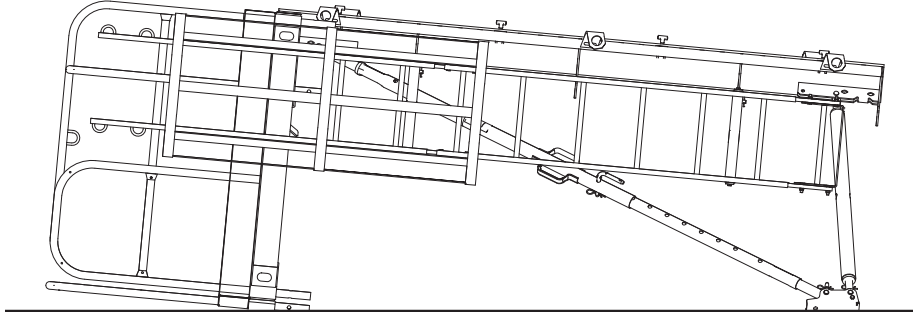

Fig. A5.03
6. Lay the column element on the Circular Column Platform for cleaning. (Fig. A5.03)
7. Push back Striking Bolt (7) for the next shuttering procedure.